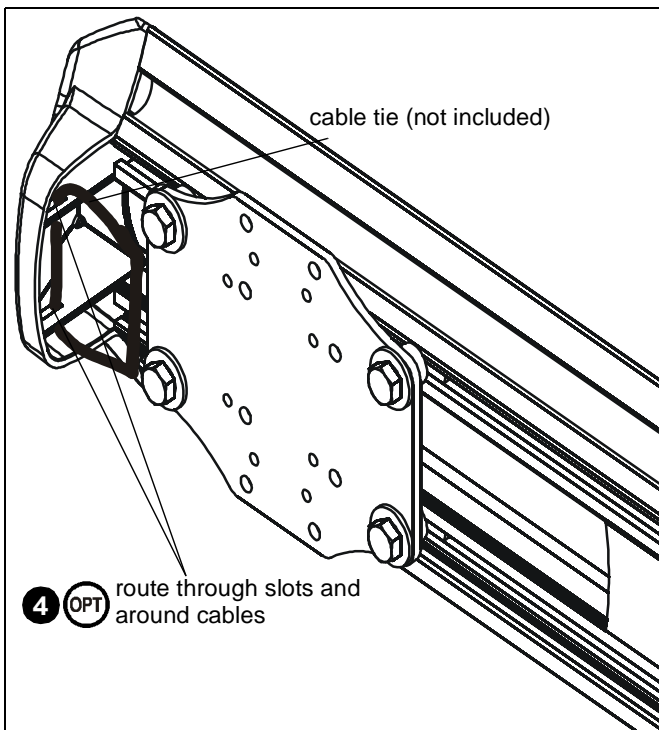

Figure 25
7. (Optional) Cables can be tied to inside of projector's front cover using cable ties (not included). Route cables near front cover and wrap cable tie through slots on front cover and around cables. (See Figure 25)